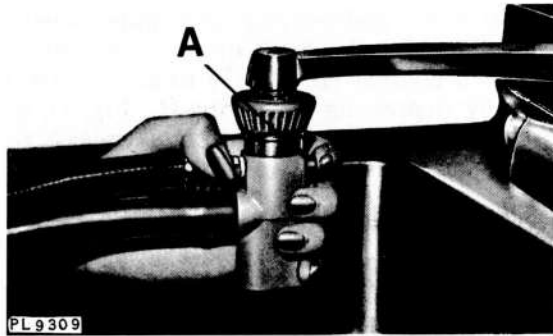

Fig. 9
NOTE: If hot water is needed while the dishwasher is connected press the red release button (A, Fig. 9) – but NOT when the dishwasher is filling or draining.
3. Press red button on coupler (A, Fig. 9) to release water pressure and prevent splash back.